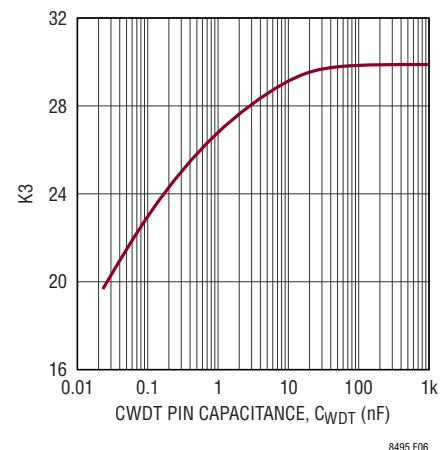

Figure 6. Upper and Lower Boundary Ratio
**Selecting the Watchdog Timing Capacitor:** The watchdog timeout period is adjustable and can be optimized for software execution. The watchdog upper and lower boundary timeout periods ( $t_{WDU}$  and  $t_{WDL}$ ) are adjusted by connecting a capacitor,  $C_{WDT}$ , between the CWDT pin and ground.  $t_{WDU}$  is typically  $30 \cdot t_{WDL}$  for large  $C_{WDT}$  values (greater than about 50nF). For lower values this ratio reduces as shown in Figure 6.
where  $K_3$  is the ratio between upper and lower boundary with typical values shown in Figure 6.